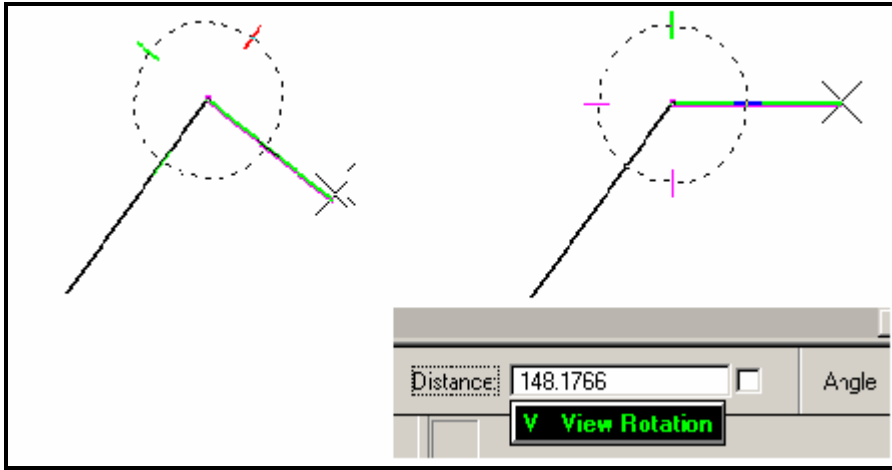

Figure 9-15: Rotate Accudraw to the View
- ♪ You have to make sure that it is always rotated back to horizontal between every segment: type **V** with active **Accudraw** to rotate the **Compass** to the view (Figure 9-15).